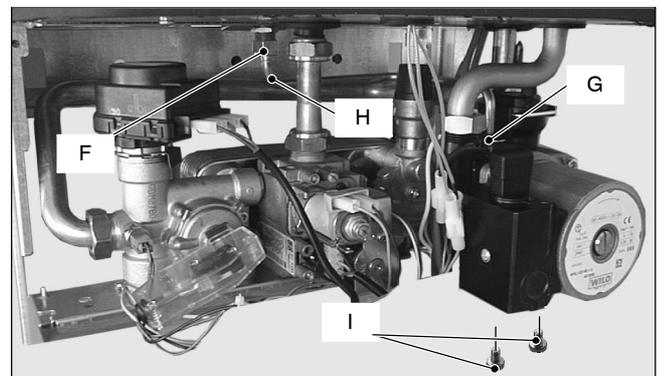

Fig. 3
- 9 Unscrew the two screws I that hold the pump on the frame (Fig. 3) and remove the pump towards the front of the boiler.